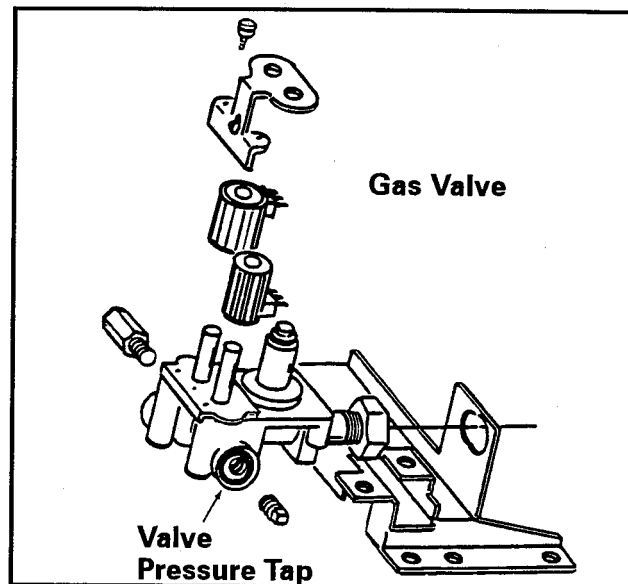

Figure 2-1
4. Install a 5/16" tapered fitting at the gas valve pressure tap. Use thread seal tape or compound on fitting, (*See figure 2-1*).